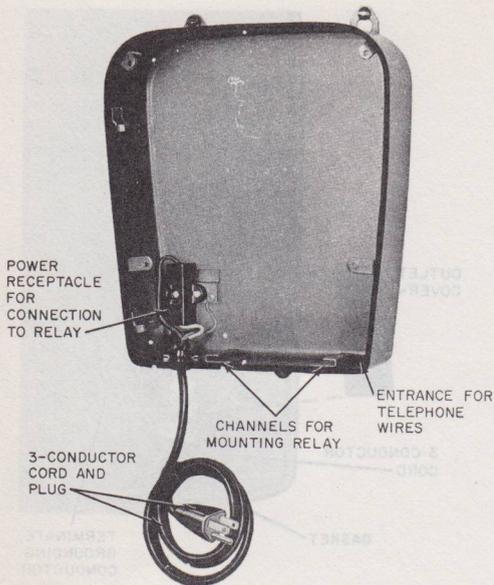

Fig. 5—KS-16301, List 8 Backbox
- An entrance hole for the telephone wires is located in the bottom of each backbox (Fig. 5).